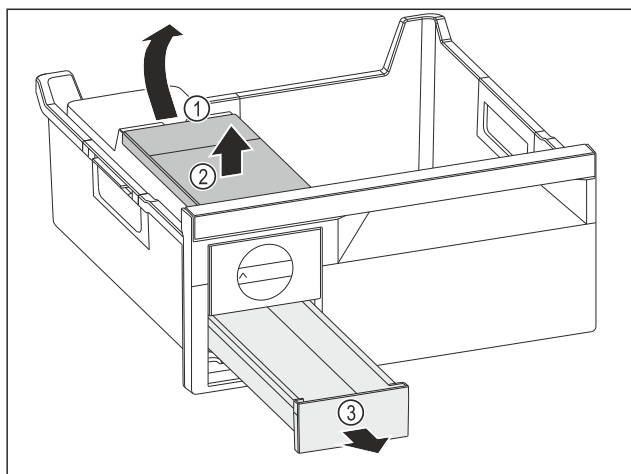

Fig. 164
- Removing the water tank: Lift the water tank at the recess Fig. 164 (1).
- Remove the water tank Fig. 164 (2) upwards.
- Remove the ice cube tray Fig. 164 (3) from the front.